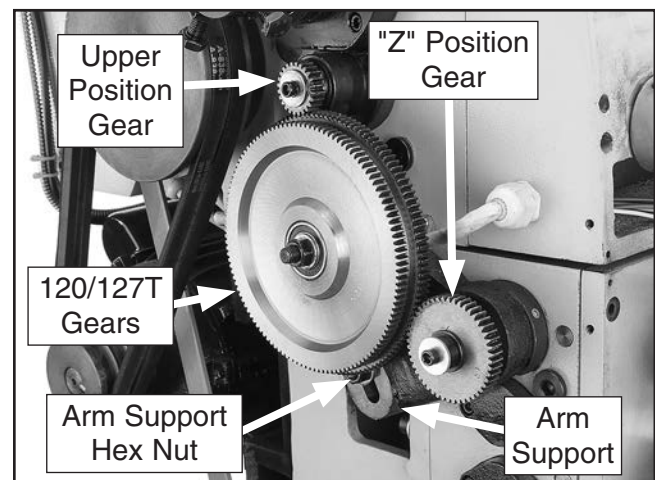

Figure 76. Arm support and end gears.
4. While holding **120T/127T** gears, loosen arm support hex nut (see **Figure 76**) and slowly let gears pivot down and away from upper position gear.